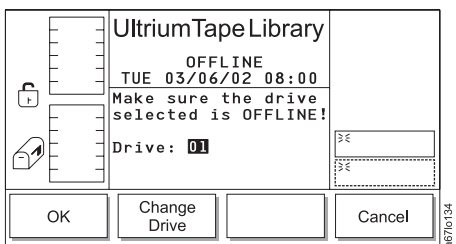

Figure 4-200. Drives Dialog
3. Press the button below the **Drives** softkey. The Drives Dialog displays the number of a drive in the library (see Figure 4-200). Within the drive column, drives are numbered 01 through 06 from bottom to top.